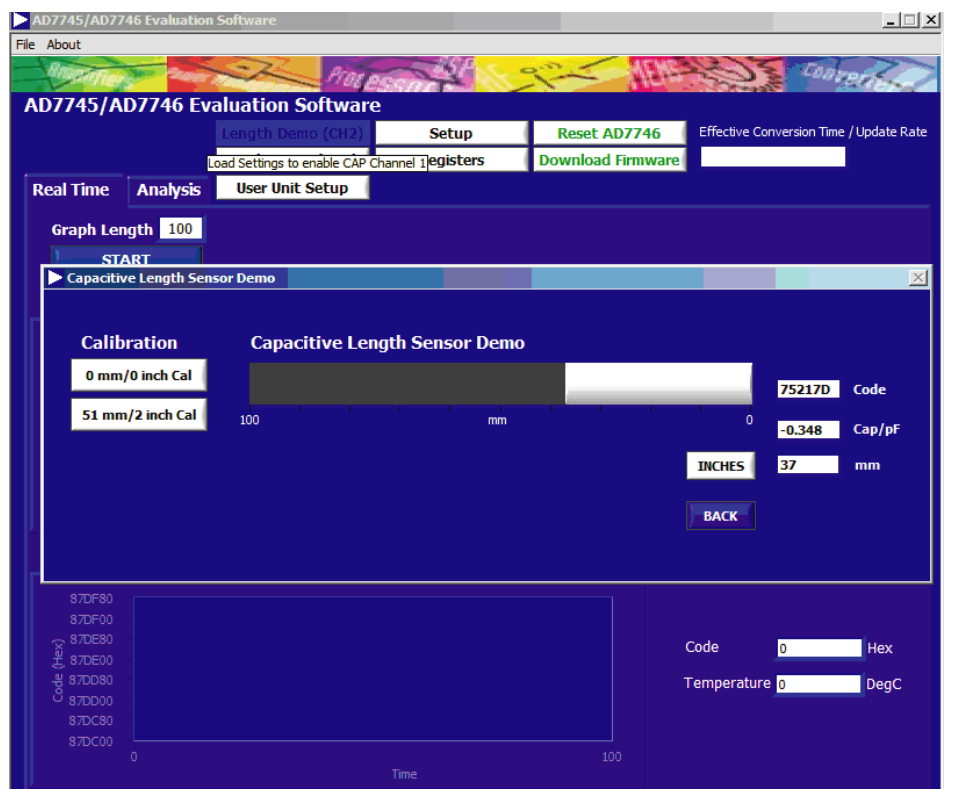

Figure 10. Capacitive Length Sensor Demo Window
- Click the **Length Demo (CH2)** button. This action enables continuous conversions on Capacitive Channel 2 in single-ended mode, enables EXCA as the excitation output pin, sets the update rate, and initializes CAPDAC A. The **Capacitive Length Sensor Demo** window appears (see Figure 10).
- Slide the ruler on the evaluation board. This action is mirrored on the screen. The code, capacitance, and length (in inches or mm) appear on the right side of the window (see Figure 10). These values change as you slide the ruler on the evaluation board.